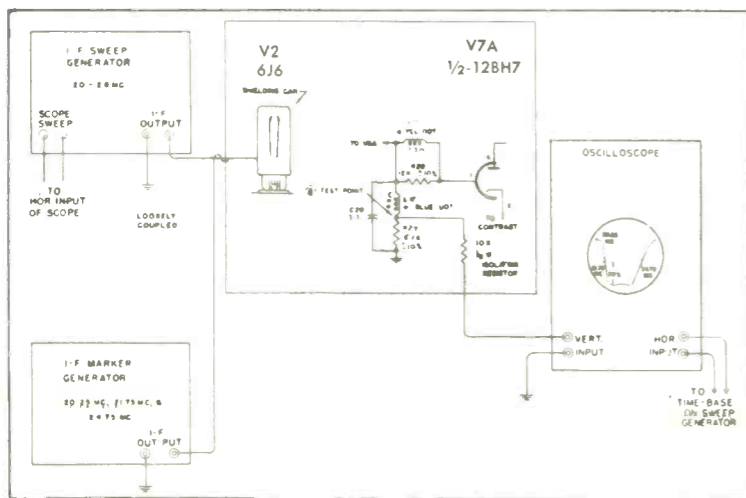

FIG. 13. IF ALIGNMENT BLOCK DIAGRAM
4. Connect TV I-F Signal Generator through a 1500 MMF condenser to Test Point (A) of tuner unit; low side to ground. (See schematic diagram.)
5. Connect negative lead of V.T.V.M. (or meter of 20,000 ohms-per-volt, or better) to 4.7K diode load resistor TEST POINT (B); positive lead to ground. (See schematic diagram.)
11. Remove Signal Generator. Feed a video I-F Sweep Generator (20 to 28 MC) through loosely coupled shield of 6J6 converter tube, making sure shield is not grounded. (Refer to Fig. 13.)